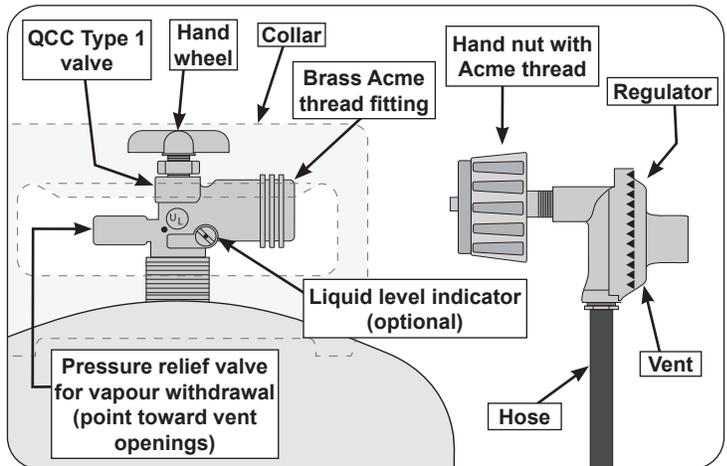

Fig. 5-1 Type I Acme thread coupler
- The cylinder used must include a collar to protect the cylinder valve. The cylinder supply system must be arranged for vapour withdrawal. See Fig. 5-1.
- When used with a cylinder, the gas supply system must be used with a pressure regulator. The pressure regulator and hose assembly (**not supplied**) used must match the specification for Type I by ANSI Z 21.58/CGA 1.6 and must comply with UL 144 as a part of the self-contained LP gas supply system (see Fig. 5-1).
**To disconnect:** Turn the hand nut counterclockwise until detached (Fig. 5-1).